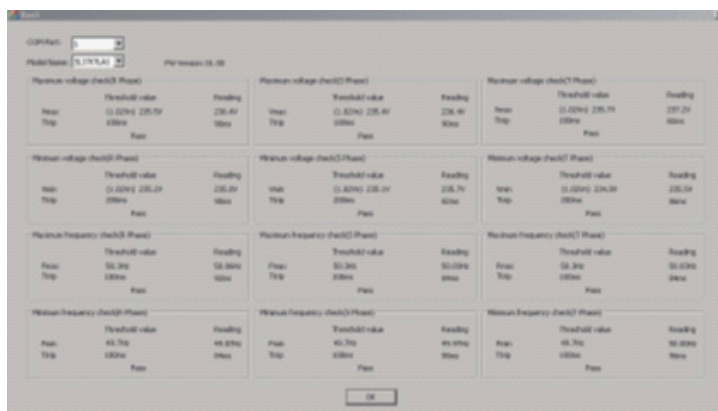
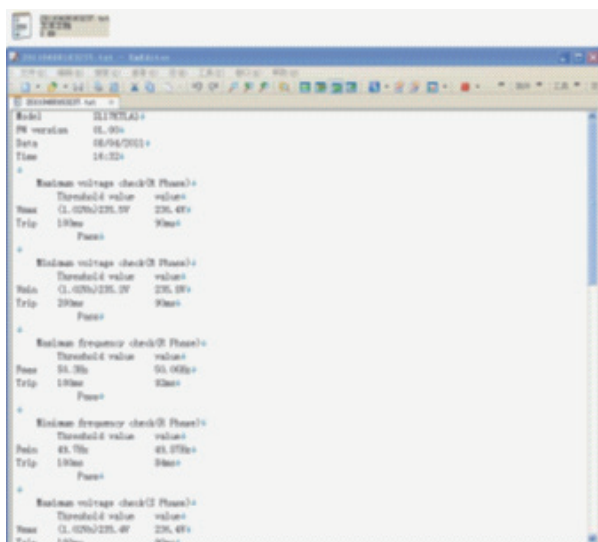

Figure 36
Figure 37
30. By clicking "OK" button, the "software Enel.exe" automatically reads the inverter's LATEST test data, and generates a "txt" format report, as shown in figure 36 and figure 37.